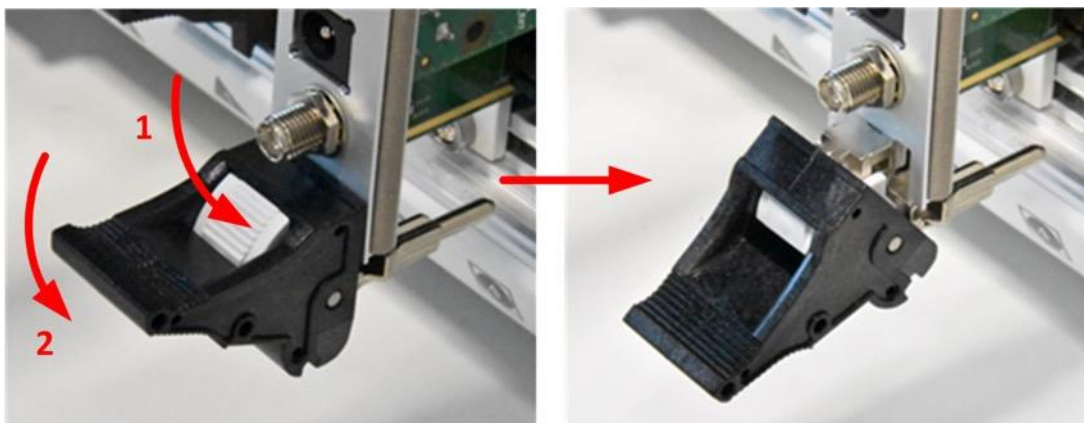

Figure 20: Push the ejector latch down prior to inserting the module
3. Push the ejector handle down (Figure 20) by pressing the grey button (step 1) on the handle and subsequently pushing the black handle (step 2) down.
- Push the ejector handle down (Figure 20) by pressing the grey button (step 1) on the handle and subsequently pushing the black handle (step 2) down.